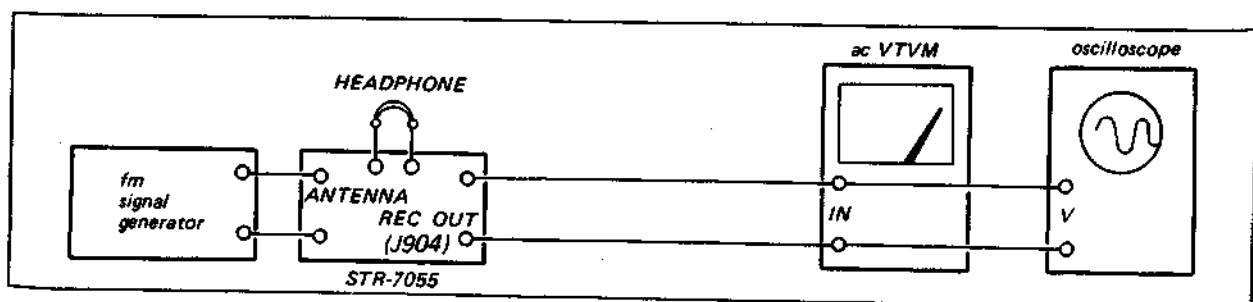

Fig. 3-4. Fm i-f, discriminator, muting and front-end alignment test setup
- With the test equipment connected as shown in Fig. 3-4, set the receiver controls as follows:
2. Connect the test equipment as shown in Fig. 3-4.
3. With the test equipment connected as shown in Fig. 3-4, set the signal generator controls as follows: